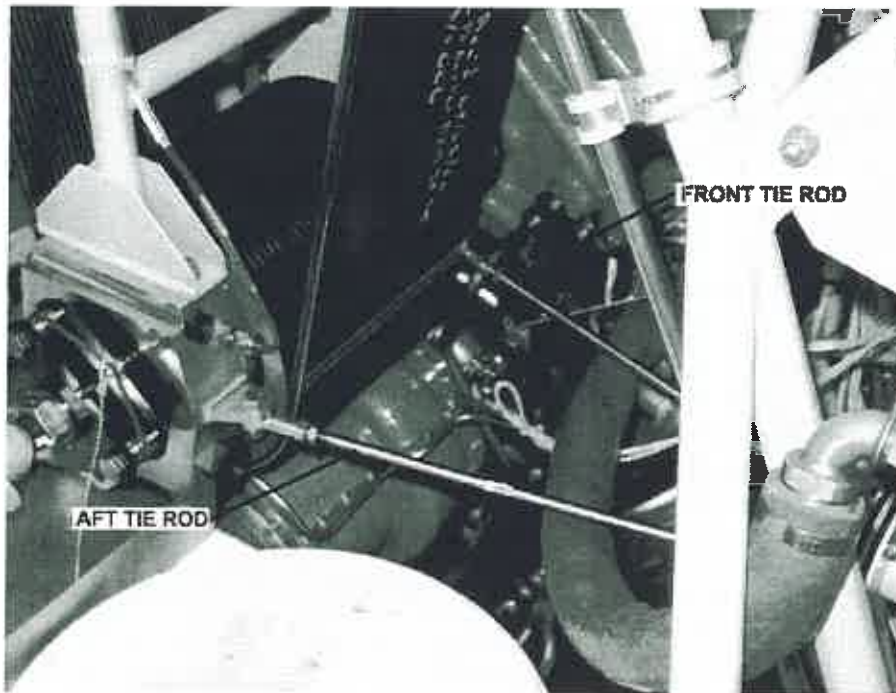

Figure 2 - Lower Pulley Tie Rods
5. Disconnect the tie rods from the lower pulley assembly (See Figure 2).